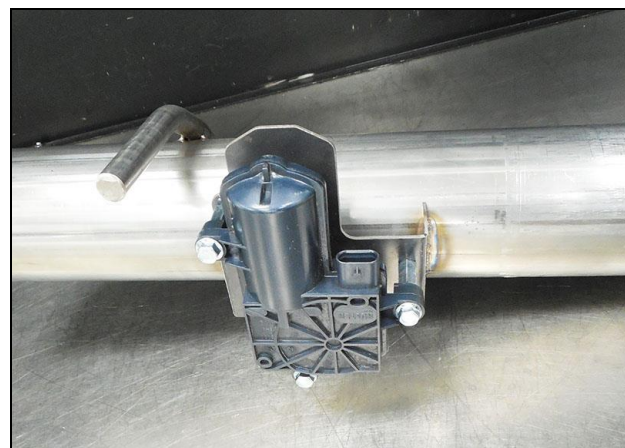

Figure 5
10. Reference **Figure 5** for installed AEV actuator.